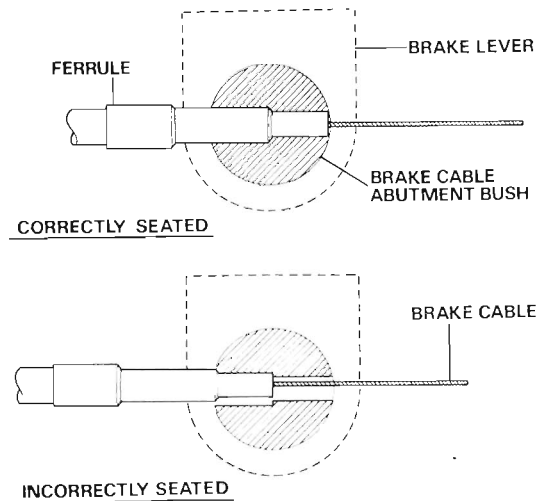

Fig. D12. Front brake cable abutment.
**Ensure that the cable abutment locates correctly in the counterbore.** (See Fig. D12).